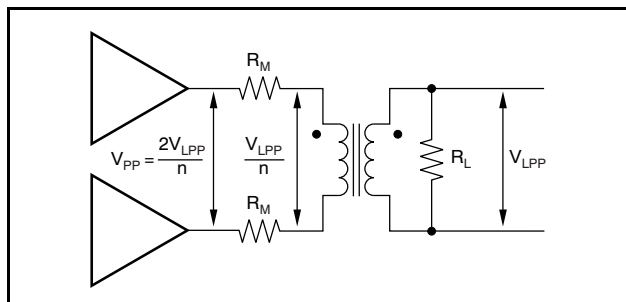
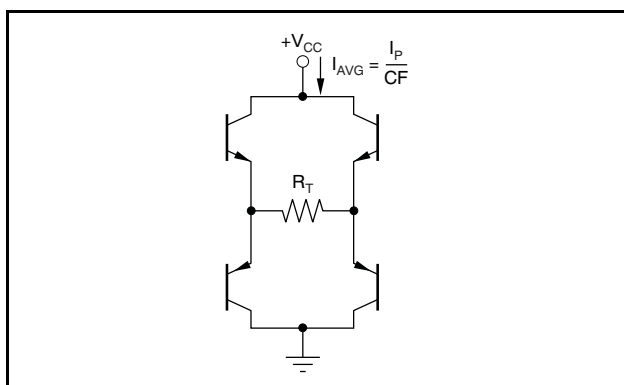

Figure 83. Driver Peak Output Voltage
Figure 86. Output Stage Power Model
with V_{PP} as defined in Equation 8, and R_M as defined in Equation 3 and shown in Figure 83.
The total internal power dissipation for the THS6214 in an xDSL line driver application is the sum of the quiescent power and the output stage power. The THS6214 holds a relatively constant quiescent current versus supply voltage—giving a power contribution that is simply the quiescent current times the supply voltage used (the supply voltage is greater than the solution given in Equation 11). The total output stage power can be computed with reference to Figure 86.
The two output stages used to drive the load of Figure 83 can be seen as an H-Bridge in Figure 86. The average current drawn from the supply into this H-Bridge and load is the peak current in the load given by Equation 9 divided by the crest factor (CF) for the xDSL modulation. This total power from the supply is then reduced by the power in R_T , leaving the power dissipated internal to the drivers in the four output stage transistors. That power is simply the target line power used in Equation 4 plus the power lost in the matching elements (R_M). In the following examples, a perfect match is targeted giving the same power in the matching elements as in the load. The output stage power is then set by Equation 13.